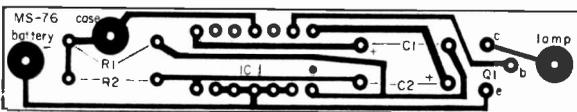

Fig. 2. Actual-size printed board for the modulator. It will fit into the penlight case with room to spare.
**Modulator.** If you plan to build the penlight key or modulator (Fig. 1) a printed circuit board is an absolute must. You can make your own using Fig. 2 as a guide, or you can purchase a PC board (see Parts List). When soldering compo-
As shown in Fig. 2, there are only three external connections to be made to the printed circuit in the modulator. These go to the negative side of the battery, the tip contact of the lamp, and the penlight case. For simplicity, you may